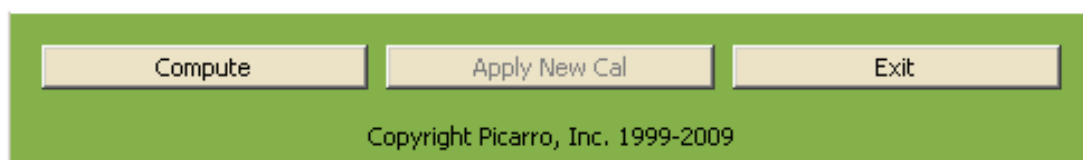

Figure 32: Action Selection Section of Data Recal Software Utility GUI
3. Action Selection Section (Figure 32):